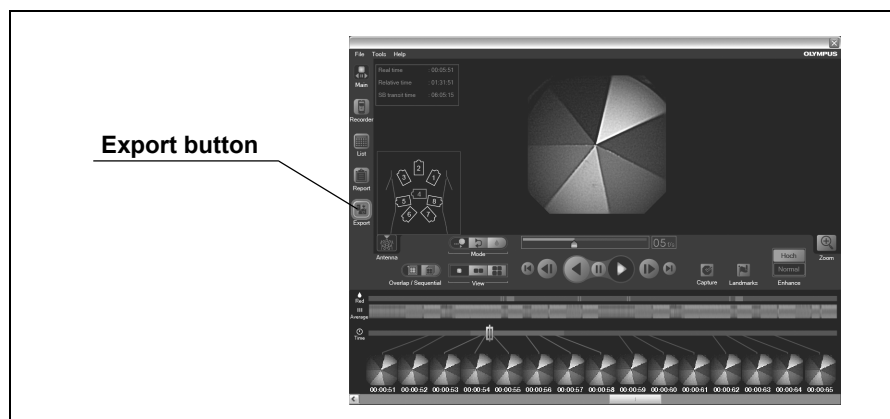

Figure 6.114
1. Click the [Export] button on the main screen (see Figure 6.114). The export screen is displayed.